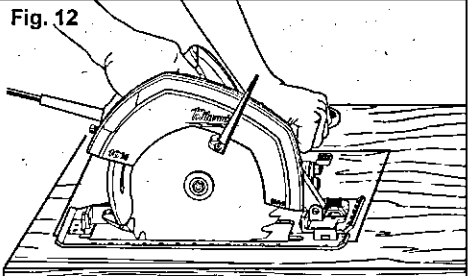

Fig. 12
3. When shoe rests flat against workpiece (Fig. 12), move saw to far corner. Release trigger and allow blade to come to a complete stop before removing it from workpiece. Repeat the above steps for each side of the opening. Use a Sawzall®, jig saw, or small hand saw to finish corners if they are not completely cut through.